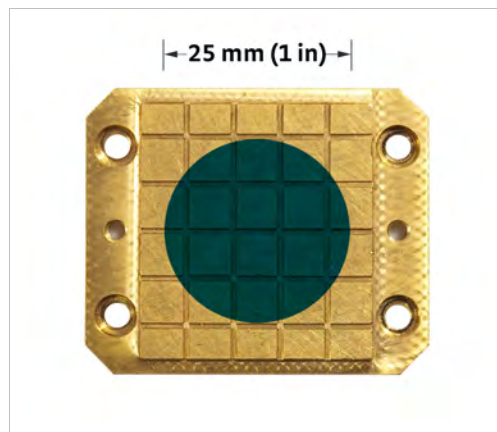

FIGURE 4-1 Probe area indicated with blue circle
5. Using the x and y-micrometers to adjust position, move the probe (it should travel smoothly) until the probe tip reaches all sides of the specified 25 mm (1 in) diameter probe area (see FIGURE 4-1 for probe area).
Each probe assembly includes a micro-manipulated translation stage with three axes of motion that are described in this section. All six available probes can be positioned in a 25 mm (1 in) diameter probe area in the center of the sample holder (FIGURE 4-1). The CRX-VF can accommodate 32 mm (1.25) and 51 mm (2 in) sample holders, but the probe area is the same for both sizes. Individual probes can land outside the probe area in line with the probe arm. Due to translation limitations, individual probes cannot be landed on either side of the defined probe area. The sample should be positioned and aligned on the sample holder to take best advantage of the probe area (see section 4.3.3.1).
Whole, 25 mm (1 in), wafers must be centered on the sample holder in order to fit onto the sample stage, to take advantage of the probe area (see FIGURE 4-1 for an image of the probe area). Smaller samples should also be centered to allow easy access by all probes.